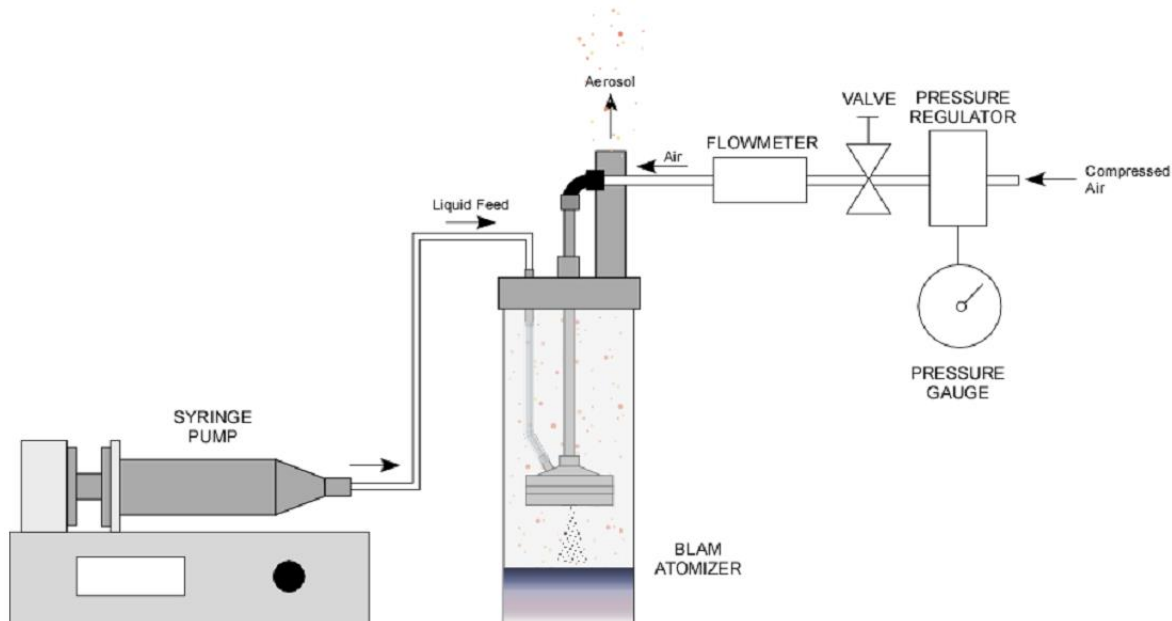

Figure 2. Schematic of Single-Jet BLAM's Setup
When the air source is turned on, mist should appear at the aerosol outlet as shown in Figure 2. If mist does not appear, recheck all your fittings and make sure that jar is screwed in tight. The operation of the BLAM depends upon it being a completely sealed unit.
7. Using a 1/4" OD tube, connect a compressed air line to the air inlet of the BLAM. Use polyurethane tubing or one that can withstand the pressure used. BLAM's air inlet is equipped with a standard 1/4" push-to-connect fitting so the air line can be connected by simply pushing the tubing in. If your BLAM comes with non-standard fittings, use appropriate couplers to connect the air line to the atomizer. If you are not using any of CH Technologies system control units, make sure that the compressed air line is equipped with appropriate pressure and flow controllers. An illustration of a standard setup of the single-jet BLAM is given in Figure 2.